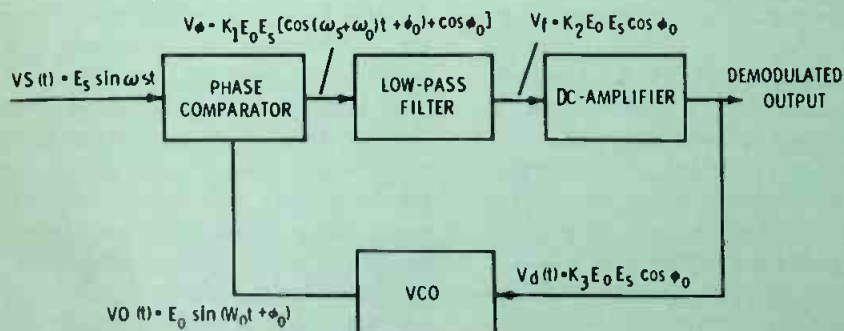

Fig. 1 Block diagram of a phase locked loop.
Fig. 1 At top (A) is a classic relay circuit (B) the diode of (A) is replaced with resistor-capacitor network. The circuit at (C) is a delayed-on, delayed-off design (D) is a timed 'on' circuit. (E) and (F) are unique pushbutton control circuits.
Figure 1(e) and (f) show a couple of unusual pushbutton control circuits I have stumbled across. In (e) C is charged slowly through R, then when S is pushed, discharges quickly through K. If R is large, K will drop out when C's voltage drops below the 'hold-in' value. If R is small enough, K will hold in at minimum voltage. This circuit may be used where it is desired to operate a high current drain relay from a supply too small to operate it. For example, assume K to be a 700 Ohm, 28 Volt relay. Normal drain is 40 ma. Drop out current is about 5-8 ma. for most of these relays. Make R 2.7K. The maximum charge current for C will then be limited to 10 ma. Running current will be 8.2 ma. R may be raised to as high a value as desired (determined by the allowable charge time for C) if K is to drop out after C discharges.
The basic PLL, shown in Figure 1, consists of four building blocks: a phase comparator, a low pass filter, an amplifier, and a voltage controlled oscillator (or VCO). The heart of the loop is the phase comparator which compares the input and VCO signals and generates an
Another means of describing the operation of the PLL is to observe that the phase comparator is, in actuality, a multiplier circuit which mixes the input signal with the VCO signal. This produces the sum and difference frequencies $f_s \pm f_o$ shown in Figure 1. When the loop is in lock, the VCO duplicates the input frequency so that the difference frequency component ($f_s - f_o$) is zero and, hence, the output of the phase comparator contains a DC component. The low pass filter removes the sum frequency component ($f_s + f_o$) but passes the DC component which is then amplified and fed back to the VCO. Notice that when the loop is in lock, the difference frequency component is always DC, so that the lock range is independent of the bandedge of the low pass filter.